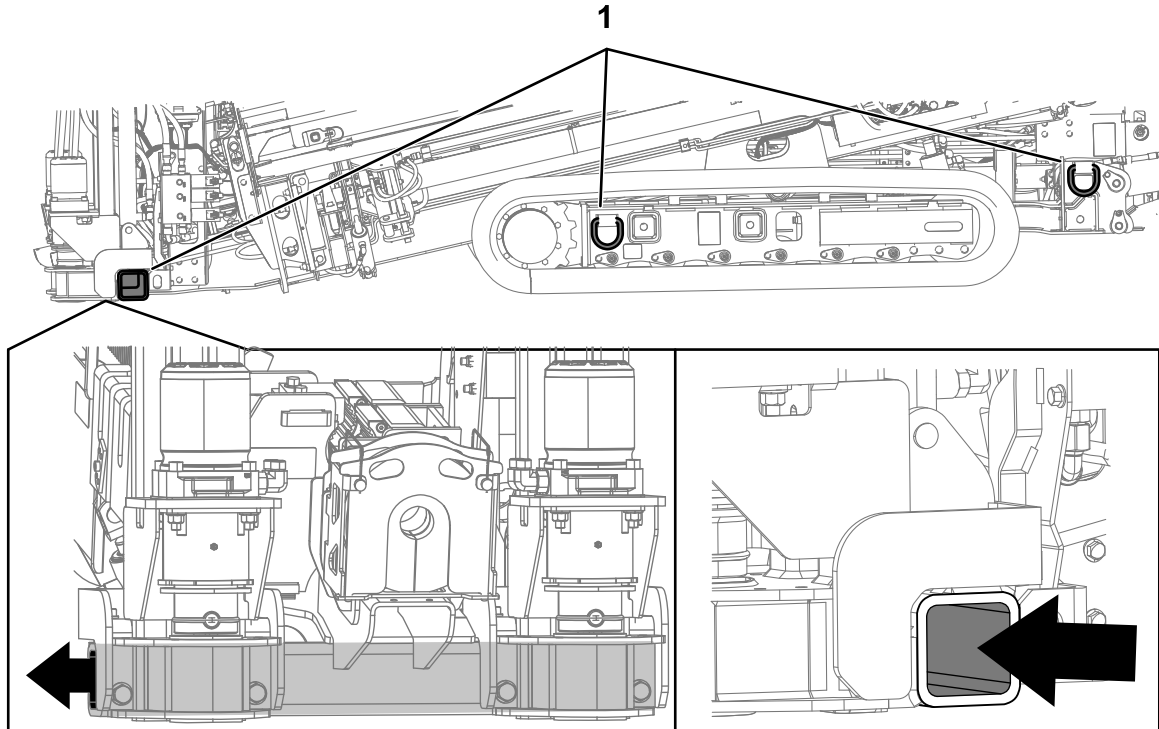

Figure 53
9. Use appropriately rated chains and binders to secure the rings on the left and right track frames and through the tube on the stake-down plate to the trailer (Figure 53).